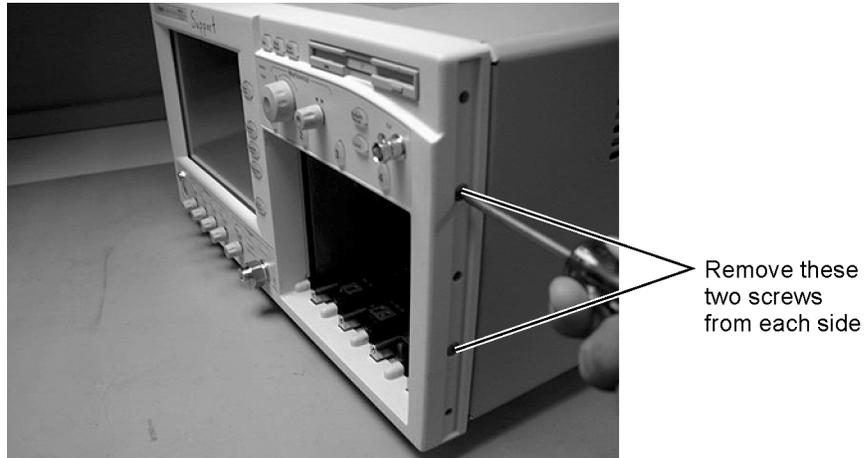

Figure 4-7. Removing the Front Panel Screws
- 3 Use the T-15 TORX driver to remove the four screws (two on each side) that secure the front panel to the mainframe, as shown in Figure 4-7.